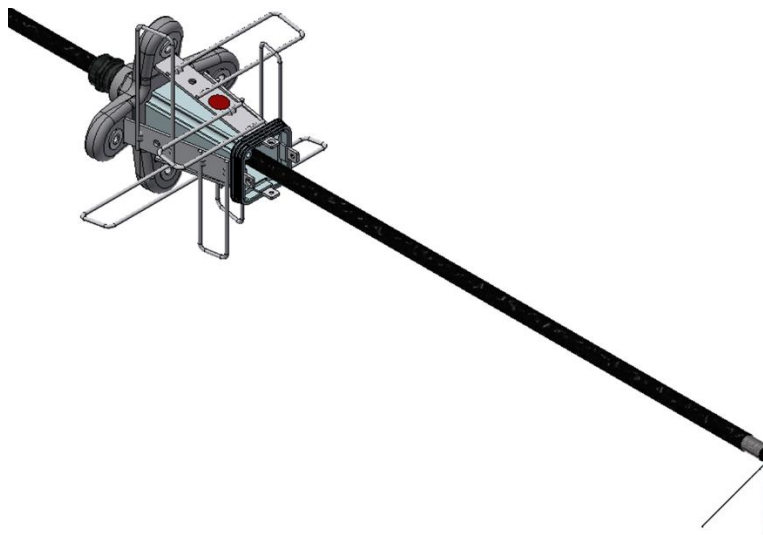

Figure 2: Trumpet insertion into the hybrid cable.
3. Insert the hybrid cable inside the trumpet, from the FEM side (as shown in Figure 2 **Errore. L'origine riferimento non è stata trovata.**).